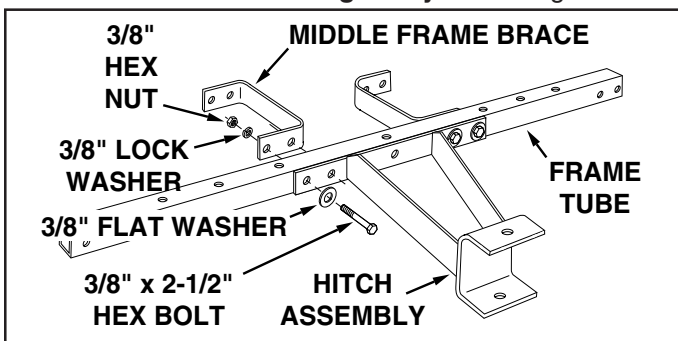

FIGURE 2
3. Assemble the middle frame braces, a frame tube and the hitch assembly together using four 3/8" x 2-1/2" hex bolts, 3/8" lock washers, 3/8" flat washers and 3/8" hex nuts. **Do not tighten yet.** See figure 2.